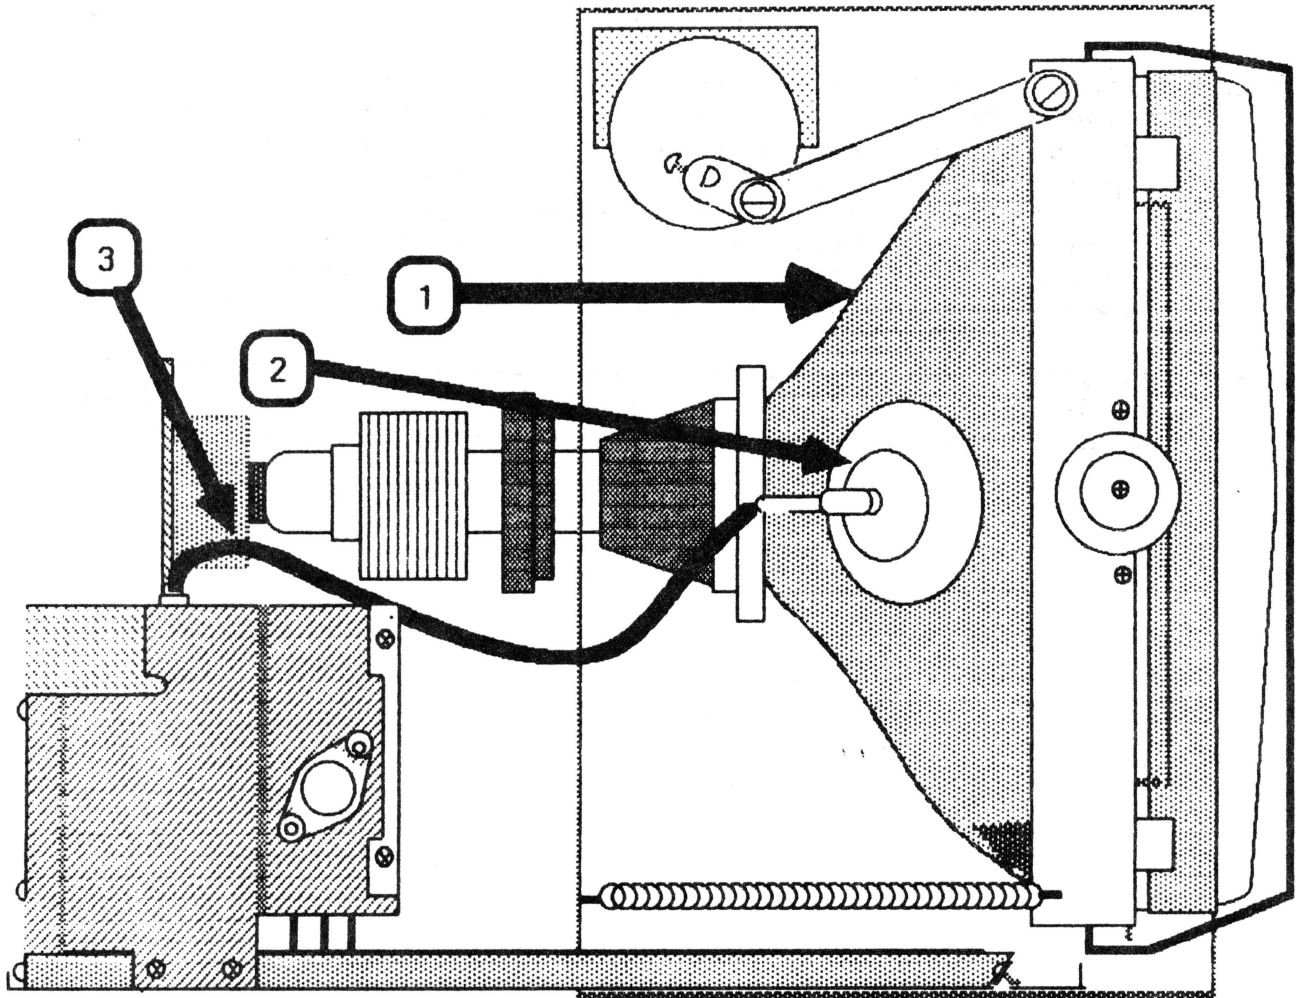

FIGURE 1
**WARNING:** There are extremely high voltages on the tube, the anode, and the anode lead. In these adjustments you will be putting your hand near these high voltage parts. It is **IMPERATIVE** that you watch what you are touching while making any adjustments when the power is on, otherwise injury can result. Avoid touching the tube, anode, and the anode lead (Figure 1, #1, #2, and #3). Use only one hand to make all adjustments! Never hold on to the chassis with your free hand while making adjustments.